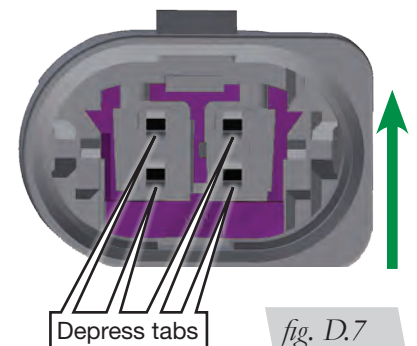

fig. D.7
- b. Use a small screwdriver to push into the opening and depress the terminal tabs (Fig. D.7).
- c. After depressing the tabs on the terminals through the openings, take the purple piece and move it in the direction of the arrow (Fig. D.7).